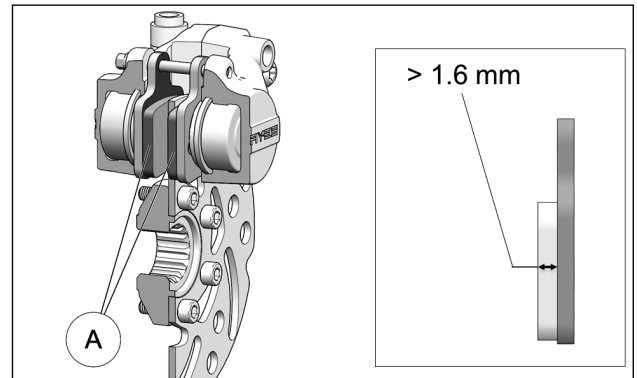

Figure 49
Inspect brake pads (A) for wear. If pad thickness is under 1.6 mm (1/16 in.), replace the parts. See Figure 49.